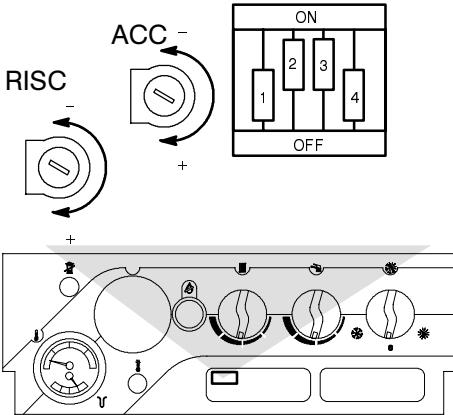

fig. 4.13
- 6 Check that the boiler lights up uniformly and adjust the flame height, if necessary. To adjust the ignition, set dip-switch "3" (fig. 4.13) to the OFF position and adjust potentiometer marked "ACC" with a screwdriver until correct lighting up is obtained (refer to tab. 4.1). Having finished this procedure, reset dip-switch "3" to the ON position.
Use a suitable screwdriver to turn the adjustment potentiometer marked “RISC” (fig. 4.13). Rotating the potentiometer anti-clockwise reduces the maximum supply current to the gas modulator device.